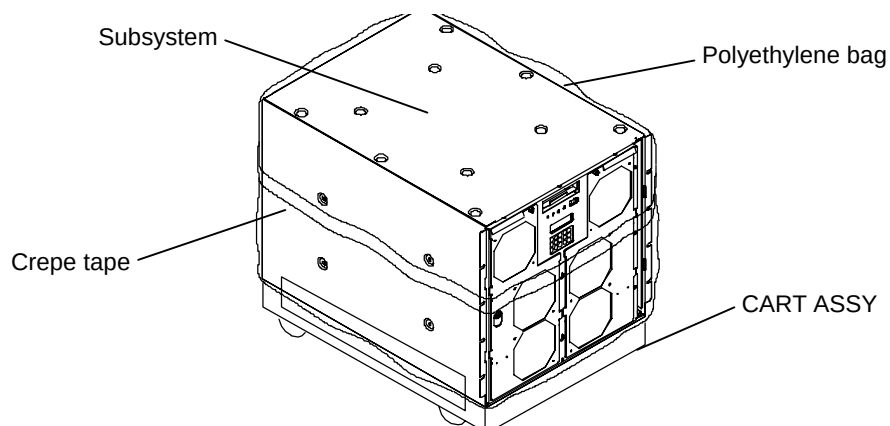
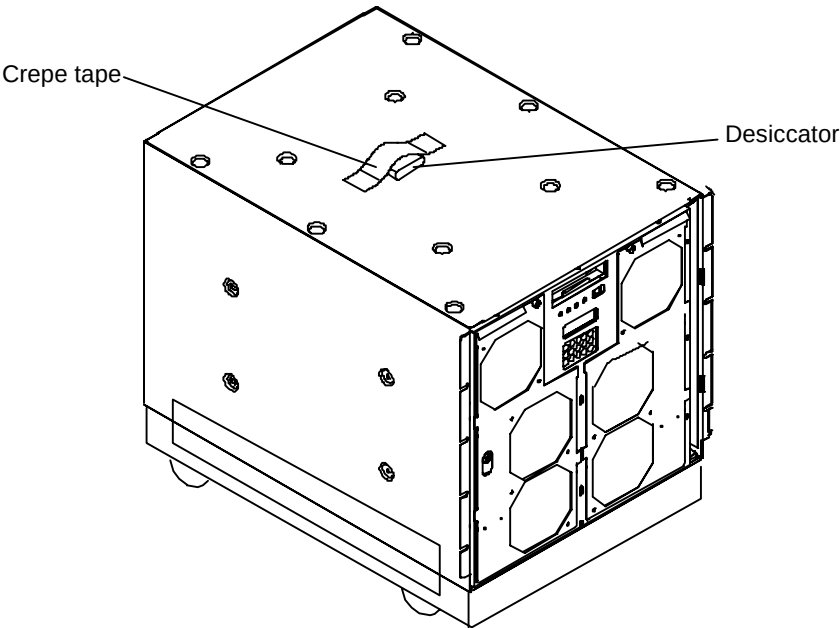

Figure 3.1.2 Subsystem without External Packaging
Figure 3.1.3 Location of Desiccantor
- (2) Figures 3.1.2 to 3.1.4 show the subsystem without external packaging.
- (3) Unpacking
- ① Loosen the polyester bands.
- ② Remove nails for T/W.
- ③ Remove the external packaging and packing materials.
- ④ Take the subsystem out of the polyethylene bag.
- ⑤ Keep keys (2pcs) in the box attached to the unit. (This key is used to open the front panel, so be careful not to lose.)
- ⑥ Remove shock absorbing material and tapes, etc. attached to the devicee.
- ⑦ Remove desicating agent on the top of the device. (See Figure 3.1.3.)
- ⑧ Take the subsystem off the CART ASSY. (The CART ASSY belongs to the customer.)